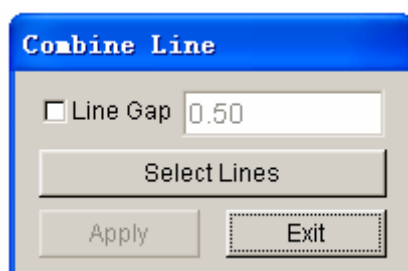

Figure 5.1.9 Combine Line
- Click on the Combine Line icon from the LINE/POINT dialog box. The program will pop-up a dialog box, as illustrated in Figure 5.1.9, for the user to select the gap value between lines. If the user doesn't toggle on the line gap option, all select lines will be combined.